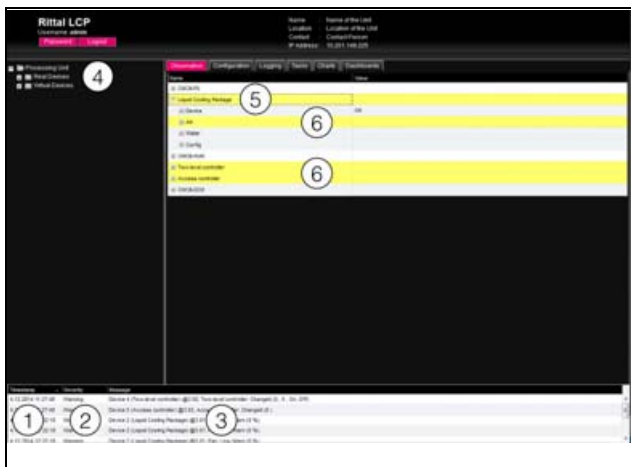

Fig. 75: Layout of message display
1. Timestamp: The date and time when the error occurred (fig. 75, item 1).
2. Severity: Severity of the error. A distinction is made between Warnings and Alarms (fig. 75, item 2).
3. Message: Error message in plain language (fig. 75, item 3).
- Left-hand screen section (navigation area): The symbol in front of the component on which the error occurred is shown in red in the tree view in the event of an alarm message, and yellow in the event of a warning message (fig. 75, item 4).
- Right-hand screen section (configuration area): On the **Observation** index tab, the entire component and the specific parameter to which the warning or alarm applies is shown in red or yellow (fig. 75, items 5 and 6).